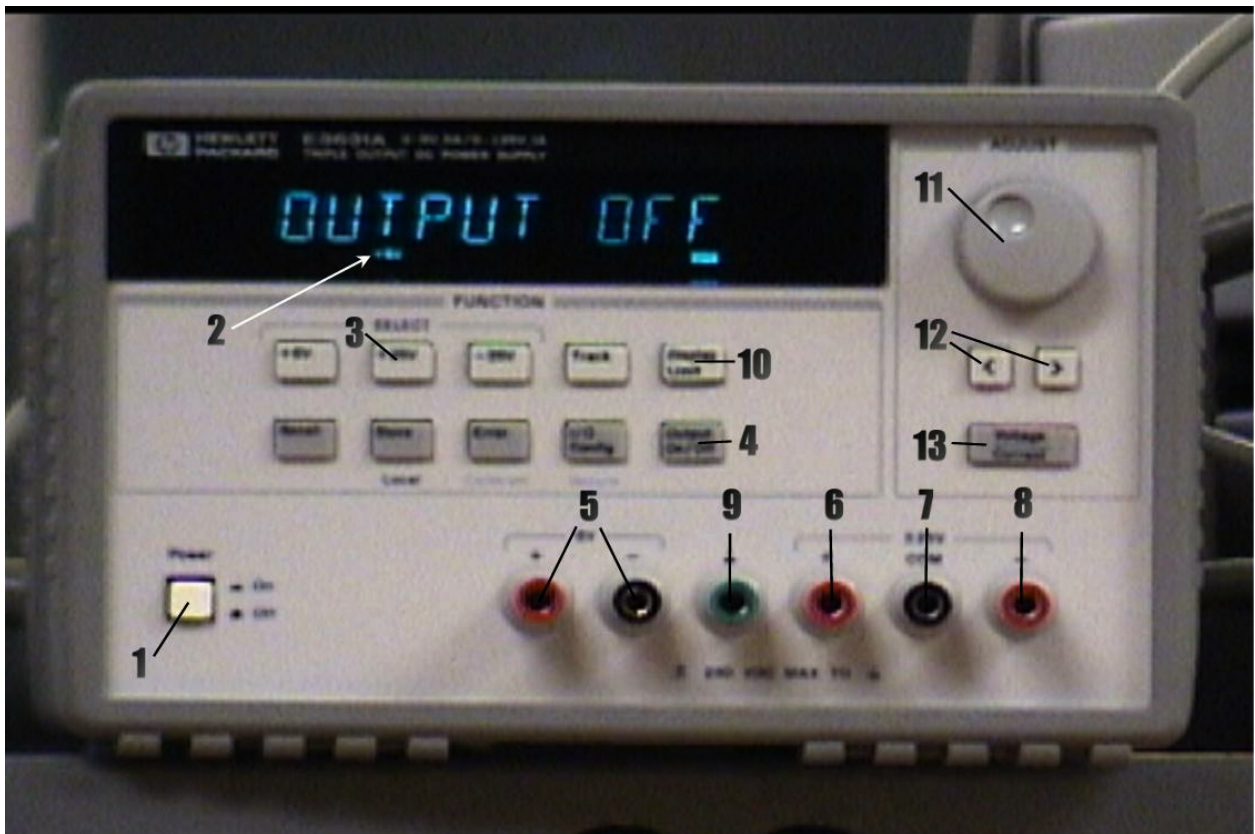
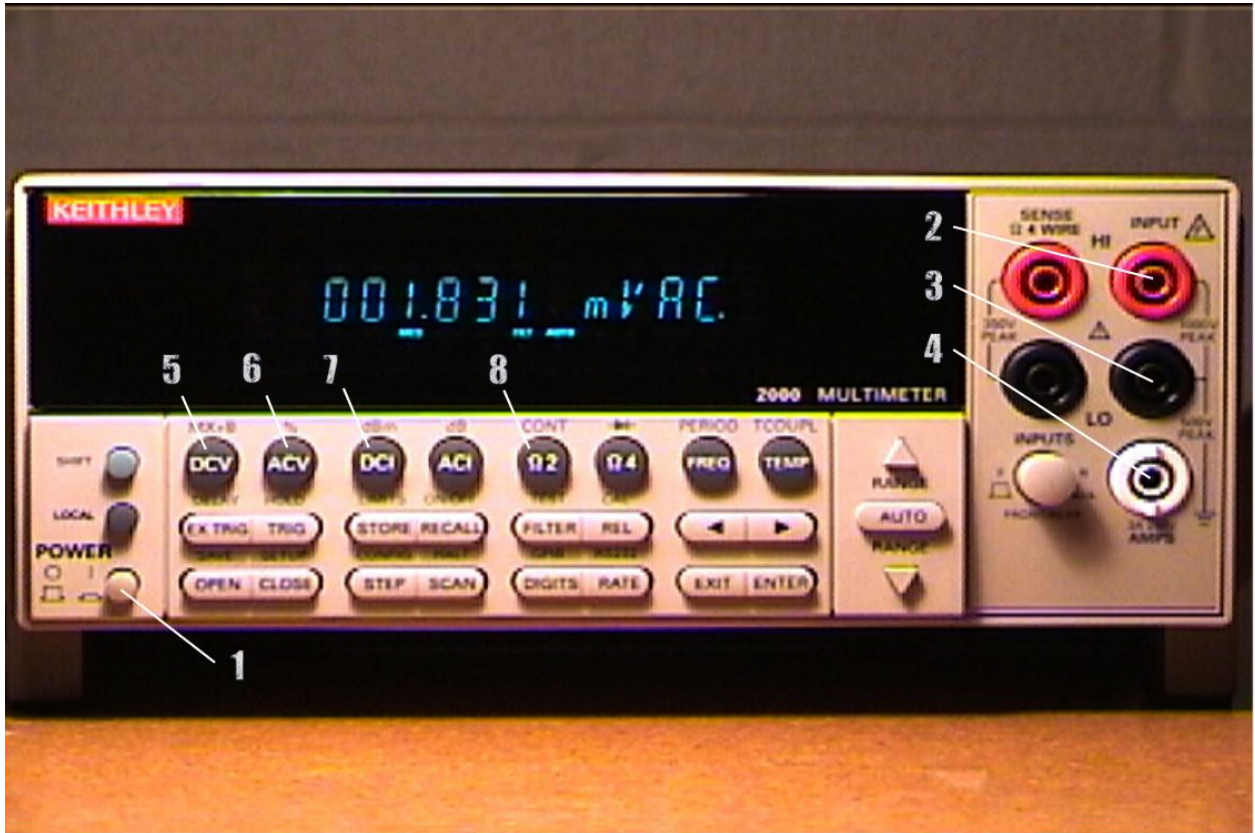
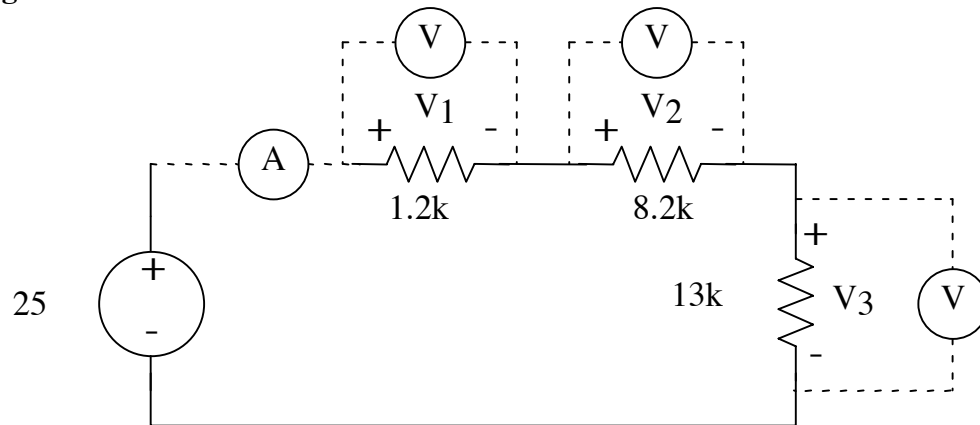

Figure 7. HP Triple Output DC Power Supply
Figure 9. Keithley Model 2000 Multimeter
Figure 10. Voltage divider circuit.
The front panel of the Triple Output DC Power Supply is shown in Figure 7. This power supply can produce output voltages in the range 0V to +6V, 0V to +25V, and 0V to -25V. The +25V and -25V supplies have a common terminal and all three supplies are isolated from earth (power line) ground, although any terminal can be grounded.
The front panel of the Keithley Model 2000 Multimeter (DMM) is shown in Figure 9. This is a very sophisticated instrument that can measure resistance by two methods, as well as DC and AC voltage and current, power level, frequency, continuity, and temperature. For each of these functions, the DMM automatically selects the most appropriate range for the specific measurement being performed. We will use only a few of its capabilities in this lab.
- 1) Obtain 1.2k Ω , 2.0k Ω , 8.2k Ω and 13k Ω resistors from the resistor drawers in the Glennan 308 Lab. Connect the alligator connectors to the banana plug leads at one end of each test wire and plug the other end of each test wire into the input (2) of the DMM. Put the DMM into resistance measurement mode by pressing the $\Omega 2$ button (8) on the DMM front panel. Measure each of the resistors that were obtained from the instrument room and record these measured values in Data Table 3.
- 2) Build the circuit shown in Figure 10. Start by inserting the three resistors into the breadboard so that they are connected in series as shown. Before connecting the power supply to your circuit, connect the DMM directly to the +25V output and use the DMM to test the output voltage of 25V. A good practice is to always turn the power supply off using the Output on/off switch (4) [in Figure 7] before connecting the power supply to your circuit. Do so now.
- 3) In order to measure the total current of the voltage divider (Figure 10), it is necessary to connect the DMM as a current meter. To do this, connect the + output of the power supply to the **AMPS input** (4) of the DMM as shown in Figure 9. Connect the **LO input** (3) (this is immediately above the **AMPS input** (4)) to the positive power supply end of the 1.2k Ω resistor as shown in Figure 10. Connect the negative power supply end of your 13k Ω resistor to the COM terminal of the power supply. To select the DC current mode of the DMM, press the DCI button (7). The DMM display should indicate mADC.